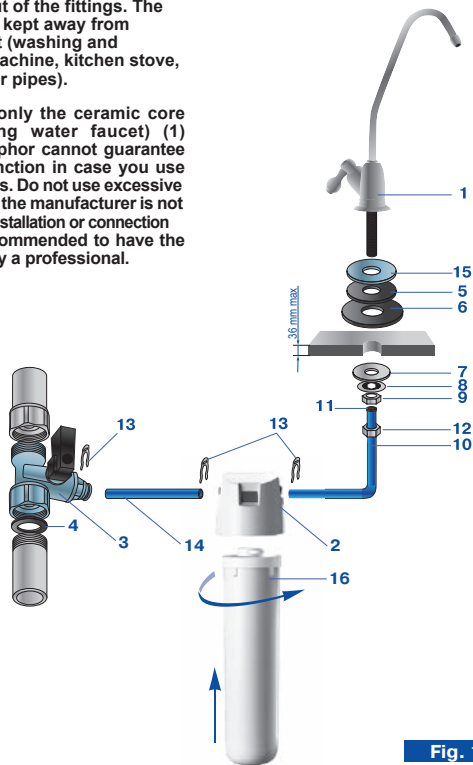

Fig. 1
Find appropriate locations for the drinking water faucet (1), the filter itself (2) and shut off valve (fig. 1).
Connecting to the water supply line (fig. 1):